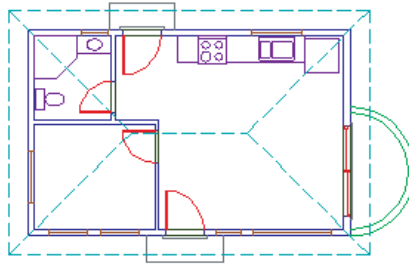

FIGURE 8.4: The horizontal height lines for the elevation in place
7. Offset this lower edge of the roof's top surface 3' up to mark the roof's ridge (see Figure 8.4).